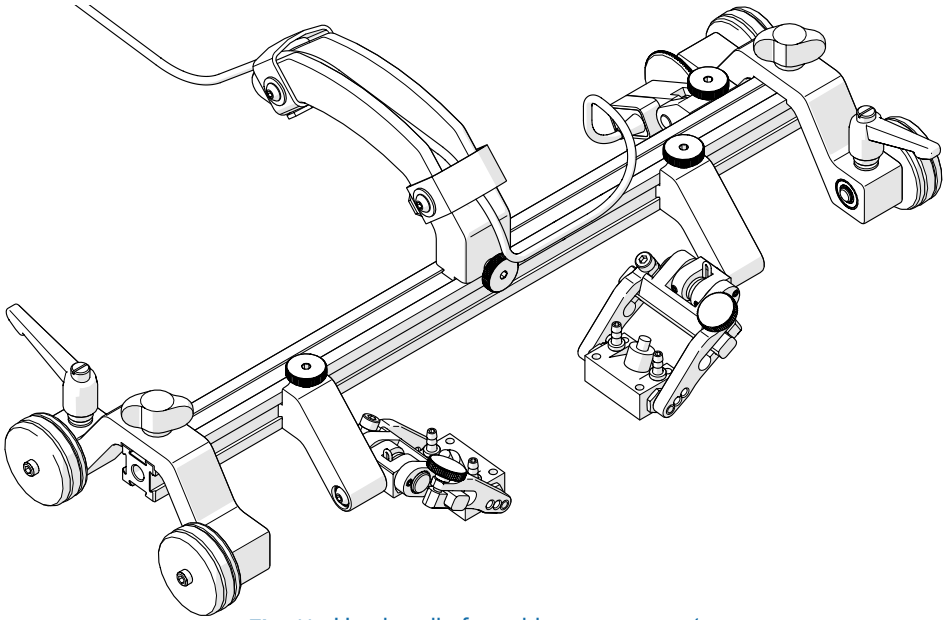

Fig. 11 - Use handle for cable management
4. Route cables and hoses through the handle (Fig. 11).